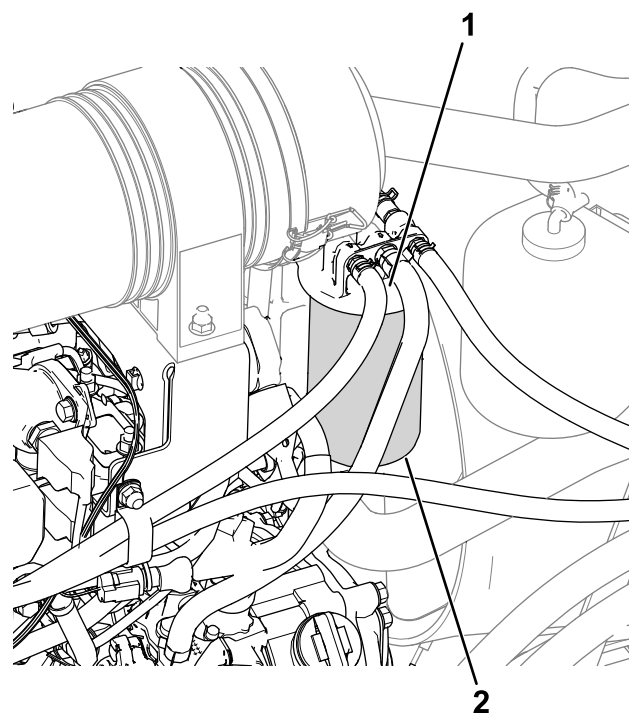

Figure 56
2. Remove the filter and clean the filter head mounting surface (Figure 56).
1. Clean the area around the fuel-filter head (Figure 56).